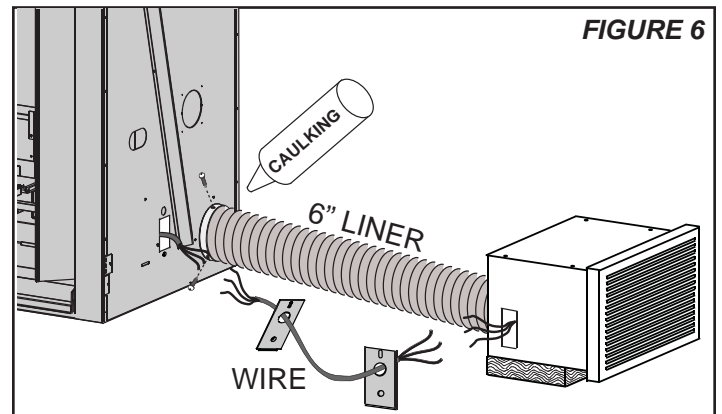

FIGURE 6
3. Connect the wires between the unit to the blower using an extension wire (not supplied). Follow the chart below to connect the wires correctly. Once all of the connections are made reinstall the junction box covers. **FIGURE 6**
4. Connect the 6" liner to the unit and blower collars. Secure using 3 screws on each end and seal with caulking. **FIGURE 6**